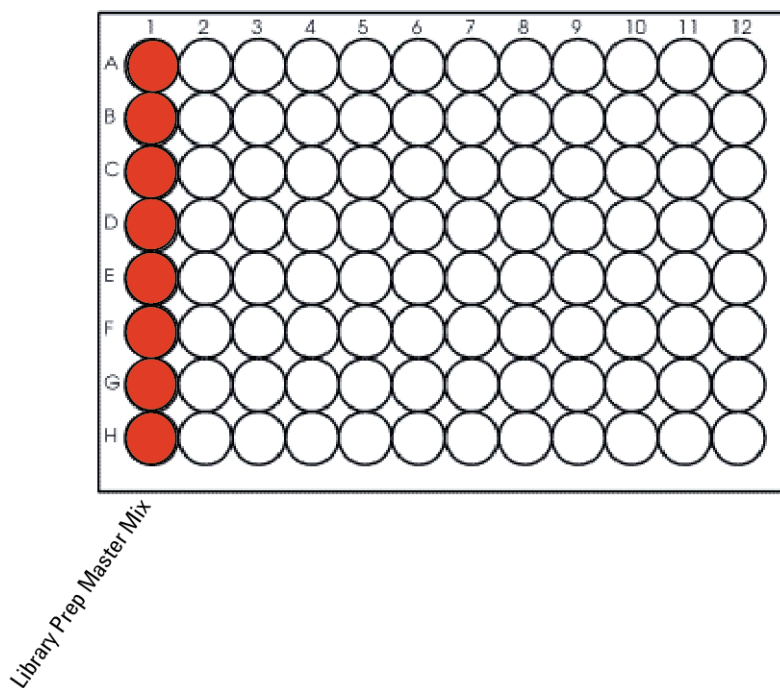

Figure 3 Configuration of the master mix source plate for 01 Tn_QXT_ILM_v1.0.pro
- 7 Prepare the Library Prep master mix source plate using a Nunc DeepWell plate, containing the mixture from step 6. Add the volume indicated in Table 11 to all wells of column 1 of the Nunc DeepWell plate. Keep the master mix on ice during the aliquoting steps. The final configuration of the master mix source plate is shown in Figure 3.